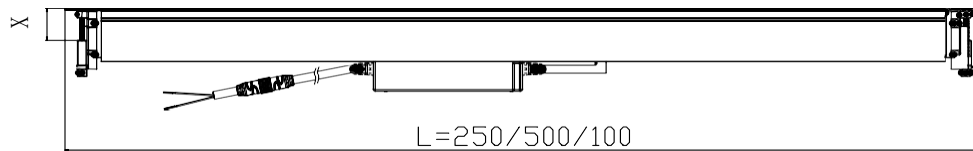

Figure 1
1. Before installing the lighting fixtures, confirm that there is sufficient space on the windowsill or floor to install the fixtures, and ensure that the X dimension thickness is less than 25mm. L represents the length of lamps of different models, as shown in Figure 1.